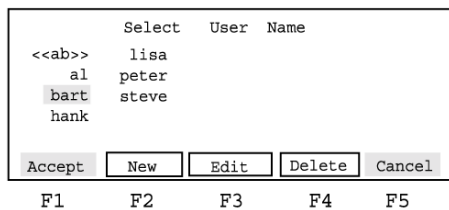

Figure 3-6. The Select User Name screen
7. Press **F1-Accept**. This displays the Select User Name screen (Figure 3-6). The name you entered should display on the screen.
1. From the Main menu, press **F5-User**. This displays the Select User Name screen (Figure 3-6).